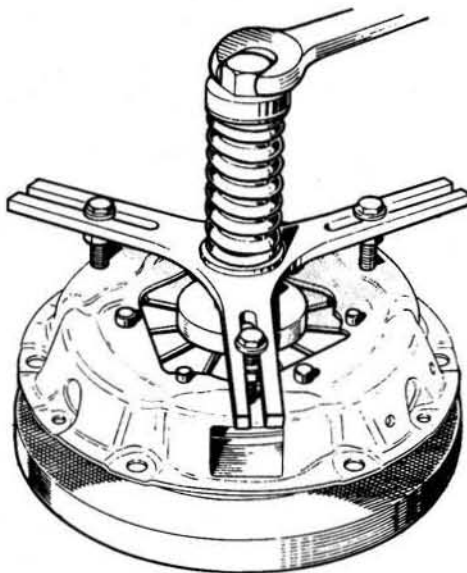

Fig.5.18. Positioning the tool for rivetting
- 29 Tighten down the centre bolt, as depicted in Fig.5.18, until the diaphragm spring is flat and the cover pressing is held firmly by the setscrews.